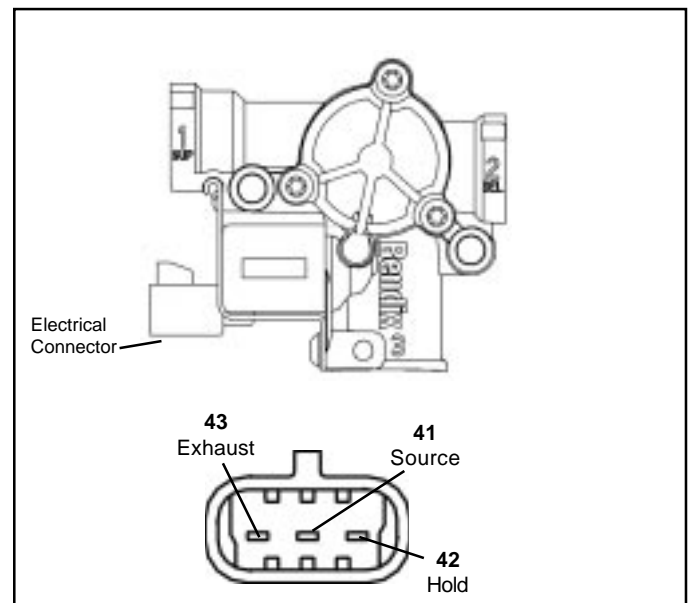

FIGURE 11 - M-30™ MODULATOR CONNECTOR VIEWS
2. Proceed to the modulator in question and inspect its wiring connector. Disconnect the connector and test the resistance between the pins ON THE MODULATOR. Refer to figures 11 and 12.